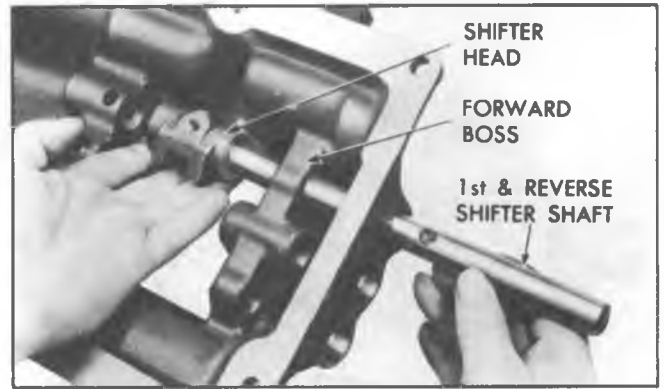

Fig. 12R--Installing Shifter Head
1. With cover upside down on bench, insert first-and-reverse (longest) shifter shaft through hole in front of cover through forward boss. Then slide shifter head on shaft with slot in head toward center of cover (fig. 12R). Push shaft through rear boss and install set screw through head into shaft and install lockwire.